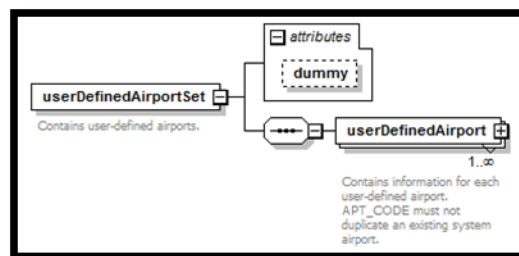

Figure 69. ASIF element – userDefinedAirportSet
10. AsifXml/study/userDefinedAirportSet/userDefinedAirport (Figure 69):